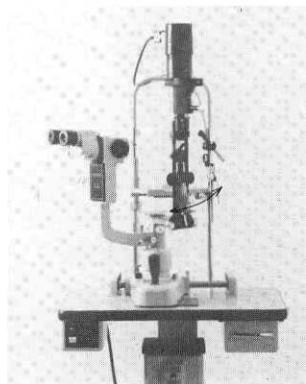

Fig. 26
- b) Loosen the slit lamp arm fixing knob¹⁵, tighten the microscope arm fixing knob¹⁴ and rotate the slit lamp arm only around the upright post (see Fig. 26)